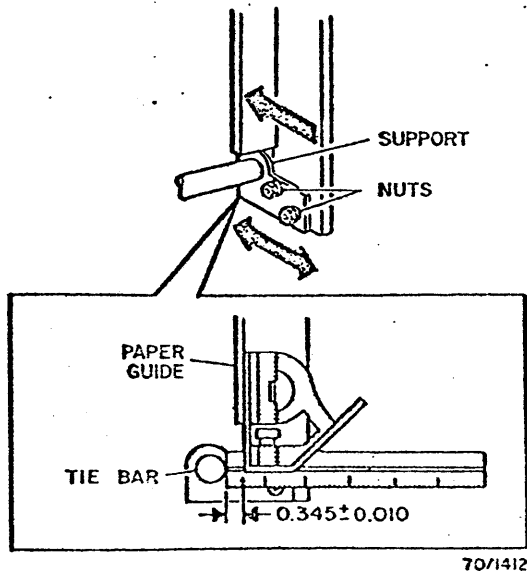

Fig. 3-53. Paper Guide Perpendicularity
1. Set the combination square to 0.345. Bank the square against the paper guide (Fig. 3-53). The end of the rule should contact the tie bar.